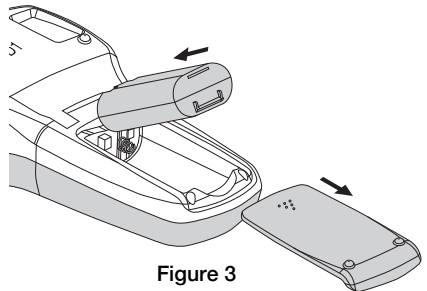

Figure 3
- 1 Slide the battery compartment cover away from the label maker. See Figure 3.